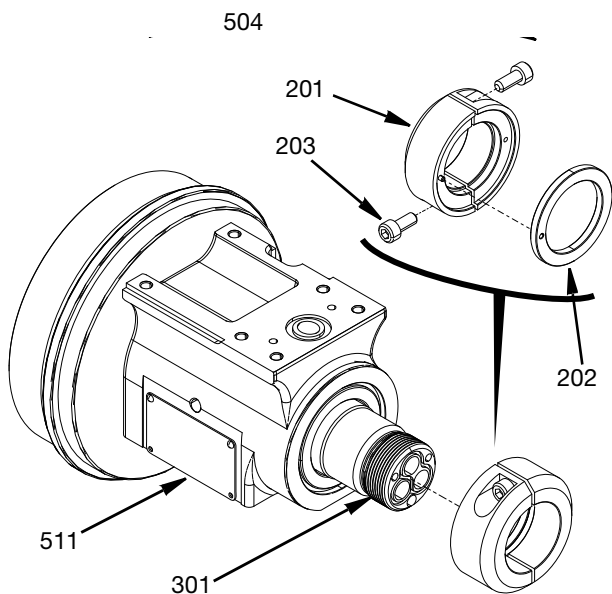

FIG. 27
- With a soft face mallet, gently tap the center body (301) into the swivel housing assembly (511) to ensure the center body is positioned against the flange bearing (502).
- Slide the lock ring assembly (201) onto the shank of the center body (301) and into place against the flange bearing (502). Ensure that the pin in the one half of the lock ring (201) is engaged in the hole of the washer (202).
- Apply anti seize to the two M5 SHCS screws (203) and torque to 57.5 in-lb (6.5 N•m). See FIG. 27.